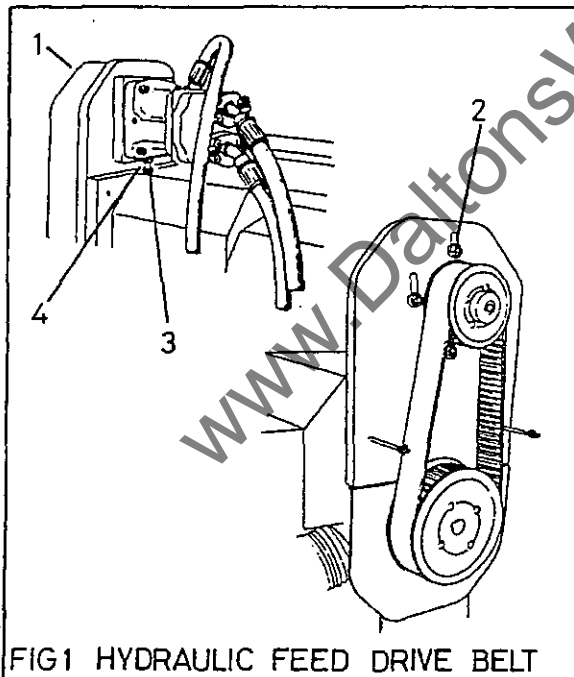

FIG1 HYDRAULIC FEED DRIVE BELT
**Hydraulic Feed Drive Belt (Fig 1)**
- 1) To replace drive belt, first remove cover (1)
- 2) Slacken off locking nuts (2) and (3)
- 3) Turn jacking screw (4) clockwise to lower motor.